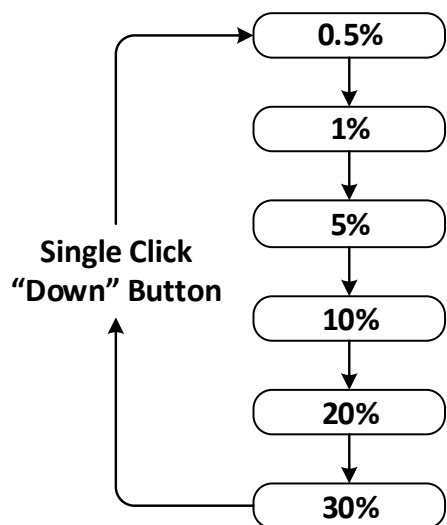

Figure 3-20: Switch Sorting Tolerance Range by Single Clicking the "Down" Button
- Single click the "Down" button to switch sorting tolerance range as Figure 3-20 shows.